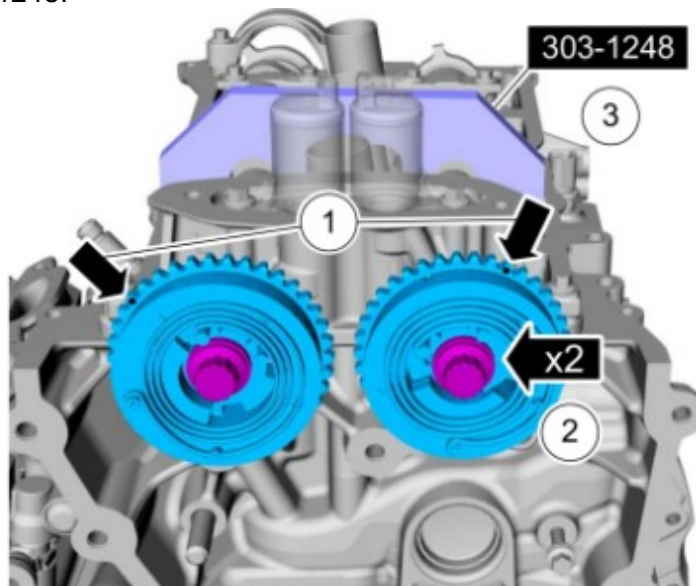

**Figure 1**
- Install new VCT units. The circle timing marks on the VCT units will be at the 10 o'clock (Intake) and 12:30 o'clock (Exhaust) positions as seen in Figure 1.